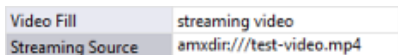

Fig. 168 TPDesign5 - Streaming Source (State) property
10. For the Streaming Source property, enter the filename of the video file with **amxdir:///** as the prefix. For example, if the video filename is "test-video.mp4" then enter the Streaming Source as "**amxdir:///test-video.mp4**" (FIG. 168):